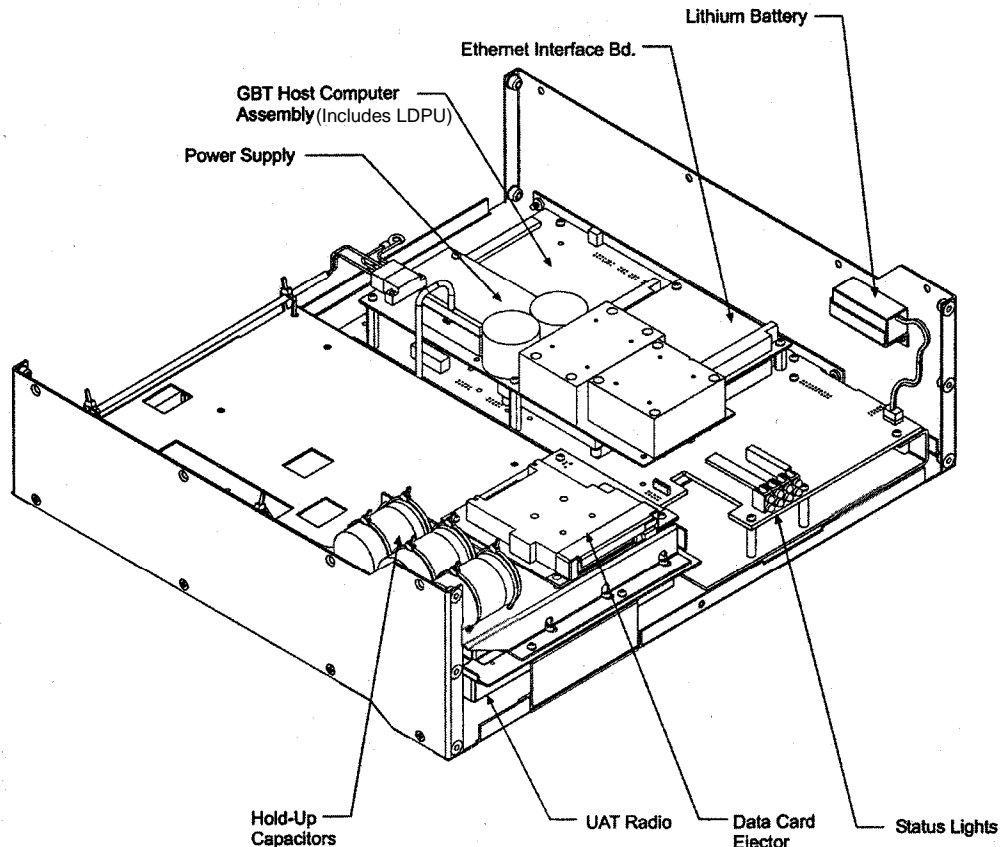

Figure 2-2 INTERNAL PARTS IDENTIFICATION
b. The internal components of the Apollo GBT2000 are identified in Figure 2-2. There are no field serviceable items in the GBT and it requires no internal manual adjustments. The Lithium battery has a normal life expectancy of seven to ten years and will normally be replaced at the factory. Future maintenance concepts will likely include field replacement of lithium batteries as required.